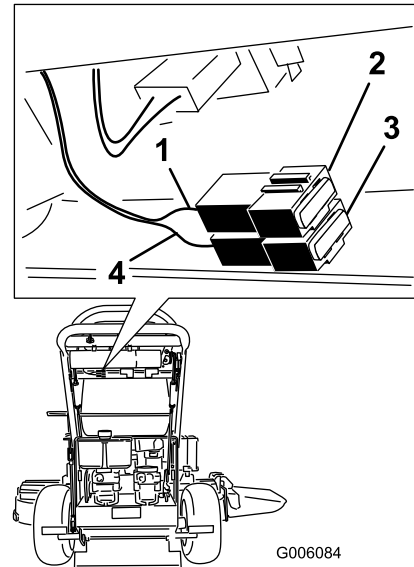

Figure 41
2. Pull out on the fuse to remove or replace it (Figure 41).
Note: Ensure that the correct-size fuse is install with the correct wire color as shown in Figure 41.